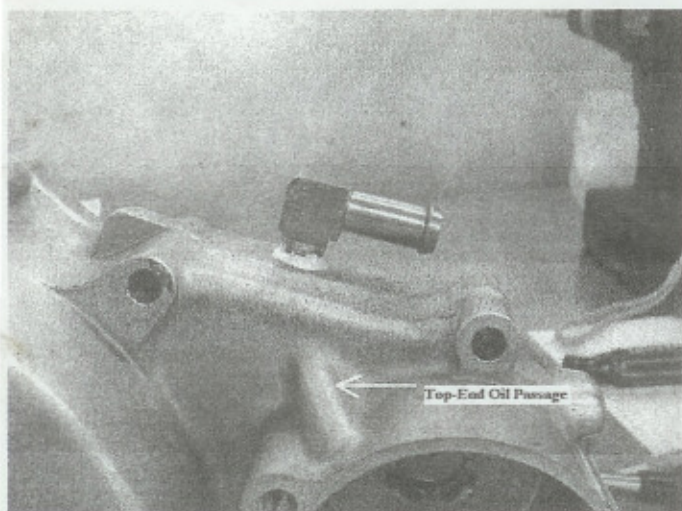

Fig. 4
Looking at the clutch cover from the side, you'll notice an oil passage that exits the side of the oil filter cover at about the 10 o'clock position (Fig. 4). This is the main feed to the top-end of the engine that must be tapped to divert the flow of oil through the cooler and back to the top-end.
- Blow or vacuum out all shavings from the passage. Locate the other 90 degree barbed fitting supplied with the kit. Apply JB Weld or a similar high temp sealant/adhesive to the threads and thread into the hole you just tapped into the clutch cover. Be sure the fitting is facing forward (Fig. 4).